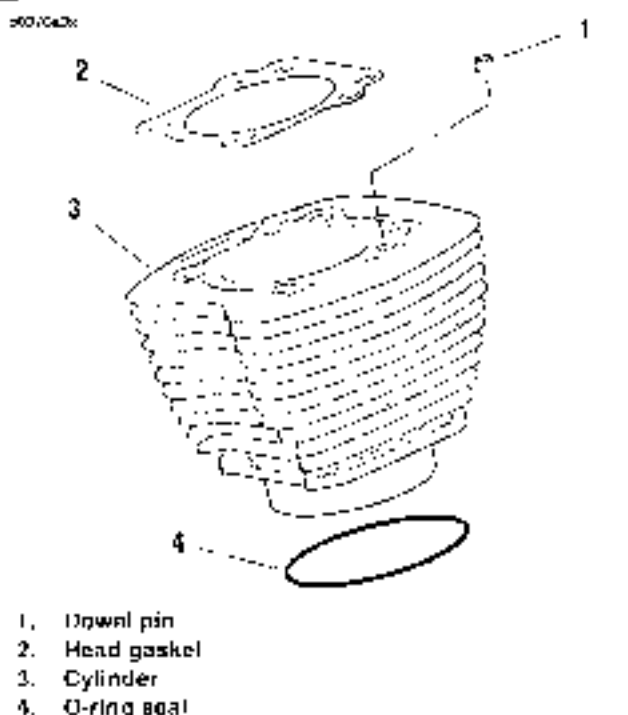

Figure 3-26. Cylinder Assembly
4. See Figure 3-26. Remove cylinder head and head gasket (2). Discard gasket.
4. See Figure 3-26. Remove O-ring seal (4) from the bottom of the cylinder liner. Discard O-ring seal.